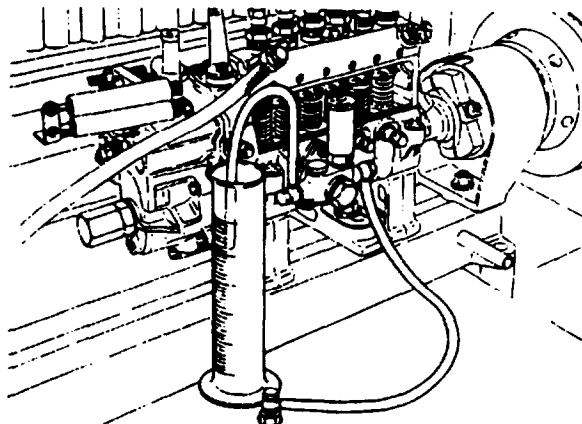

FIGURE 3-34. Capacity test
- (1) Pump should be piped as in step ah, except place end of discharge pipe in a measuring cylinder, refer to FIGURE 3-34.
- (2) Operate injection pump at speeds specified in TABLE 3-2 and check for corresponding supply rate.